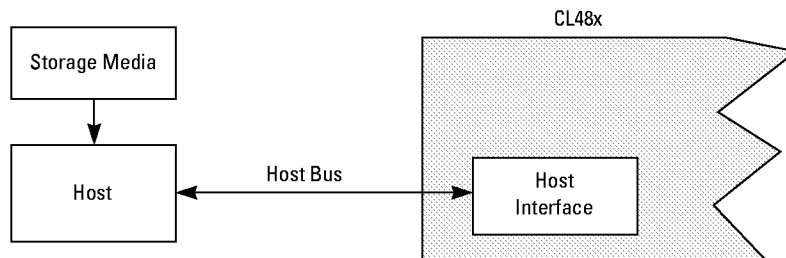

Figure 4-7 Sending Parallel Coded Data on Host Interface
- Parallel mode (through the host interface) as shown in Figure 4-7 and described in this section.